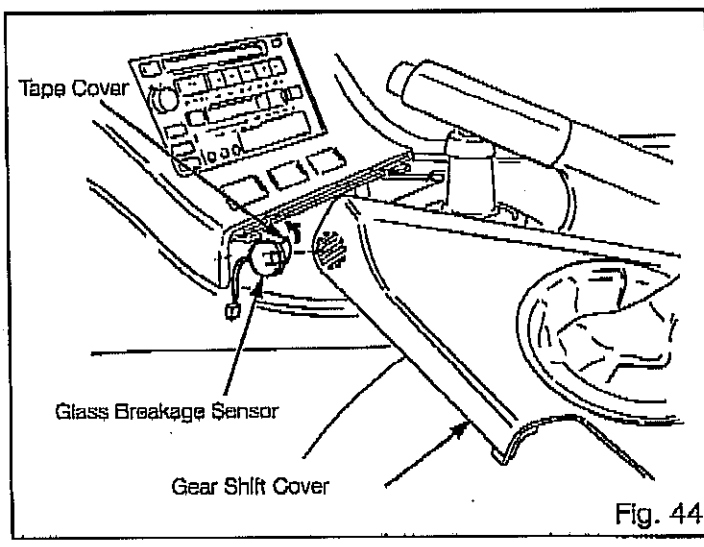

Fig. 44
- (1) A) Disconnect the Glass Breakage Sensor (microphone) from the RS3000 harness. Fig 44
- B) Reinstall the center console. Fig 44
- C) Clean the side of the gear shift cover in the shaded area. Fig 44